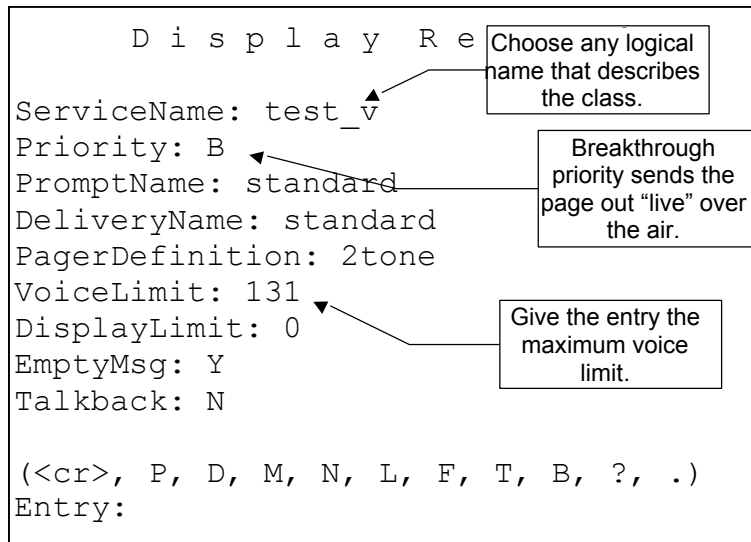

Figure 49. Model 640 Database 2-Tone Class of Service Record
- Fill in the record as shown in Figure 49.